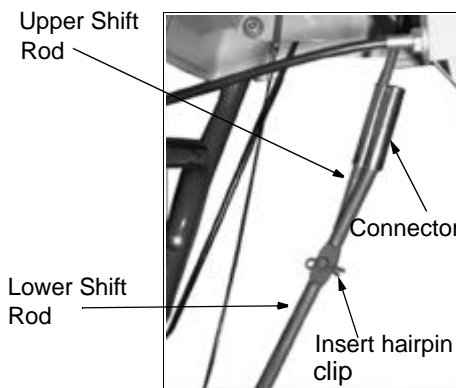

Figure 5
6. Slide the shift rod connector down over the end of the lower shift rod. See Figure 5. Tap the connector until it **locks** on the lower shift rod.